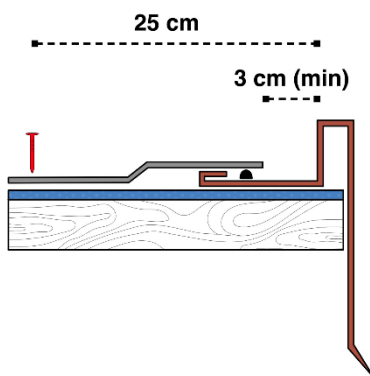

Fig. 4 - Lateral flashing detail
- Install the lateral flashing above the membrane/underlayer membrane applied to the roof. Apply a Bitustick bead to the external side of the lateral flashings. Proceed with the shingles installation, as described below, on the lateral flashing, leaving a space of about 3cm between the end of the shingles and the edge of the lateral flashing - Fig. 4. Do not use nails less than 25 cm from the flashings.